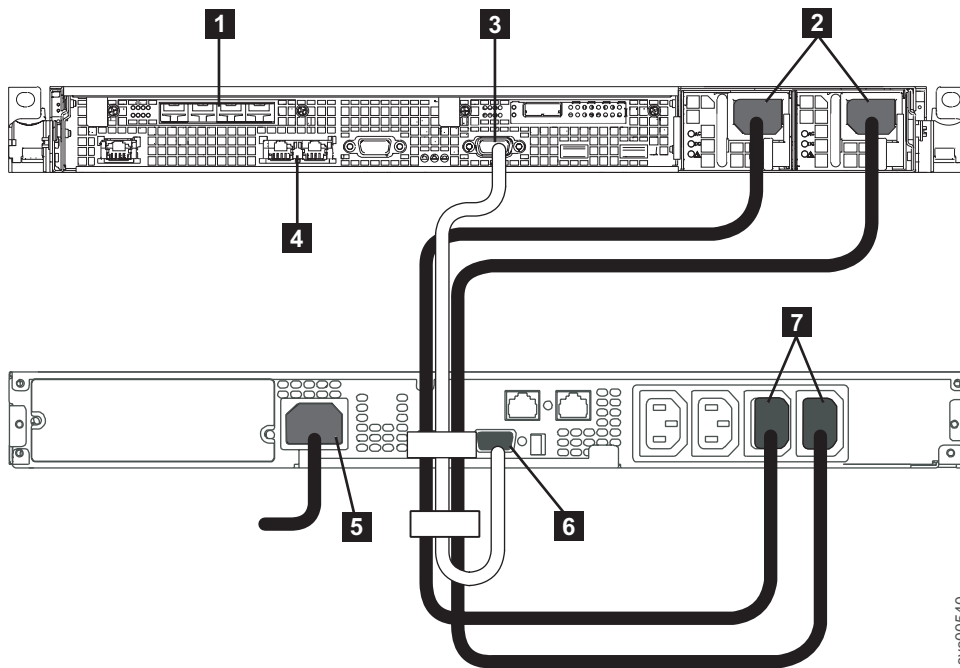

Figure 32. Connecting the SAN Volume Controller 2145-CF8 power cable to the 2145 UPS-1U
1. At the back of the SAN Volume Controller 2145-CF8 node, plug the power cables of the combined power and serial cable assembly into the power connector **2**, as shown in Figure 32.